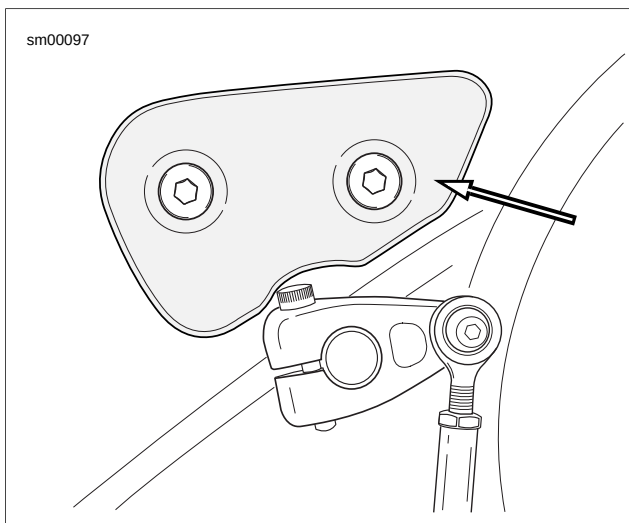

Figure 1-31. Primary Chain Inspection Cover
See Figure 1-31. Measure primary chain tension through the inspection cover opening. Adjust primary chains not meeting vertical free play specifications.
- See Figure 1-31. Remove two fasteners with captive washers and primary chain inspection cover with gasket from primary cover.
- See Figure 1-31. Install primary chain inspection cover and **new** gasket to primary cover using two fasteners with captive washers. Tighten fasteners to 84-108 in-lbs (10-12 Nm).